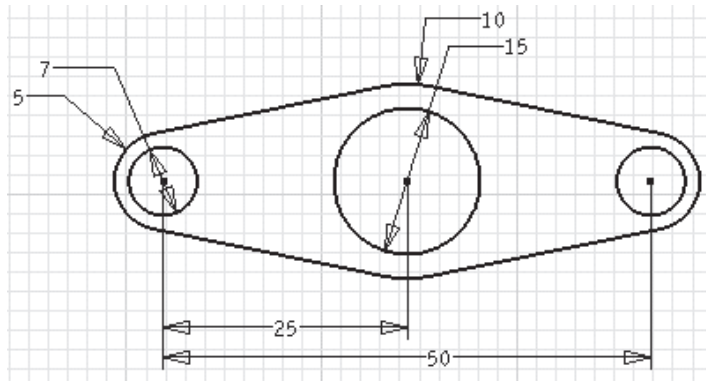

Figure 3-63 Sketch after adding dimensions
- Extrude the sketch to a distance of 10 mm using the **Extrude** tool, refer to Figure 3-63.
1. Add the required dimensions to the sketch. The sketch, after adding all the dimensions, should look similar to the one shown in Figure 3-63. Note that you may also have to add additional constraints, such as the **Horizontal** constraint, between the center points of the inner circles.